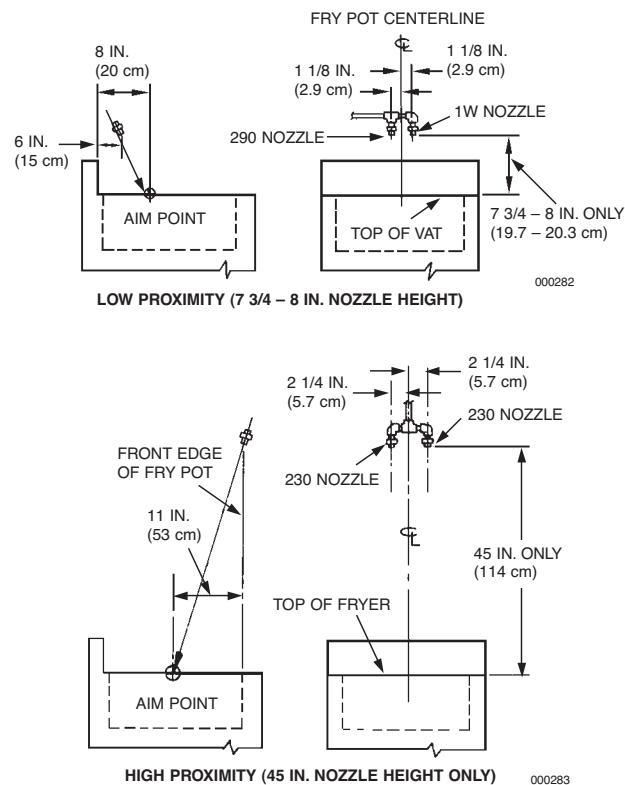

FIGURE 66
► Nozzles must be positioned and aimed as shown in Figure 66.